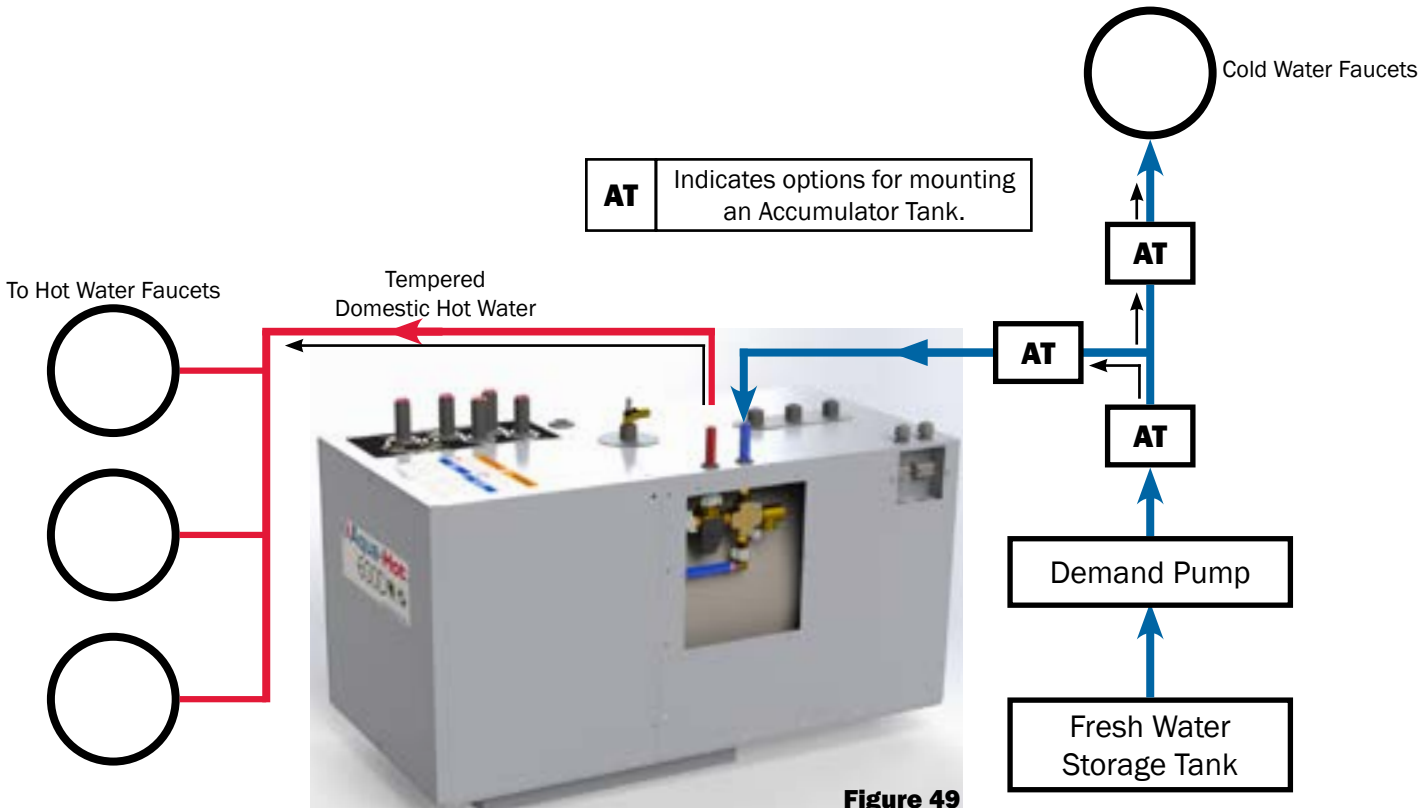

Figure 49
- Plumb the domestic water system according to Figure 49.
Please note it may be necessary to utilize an accumulator tank within the domestic water system. Reference Figure 49. Although the 600D is equipped with a pressure relief valve, the use of an accumulator tank will help prevent excessive “weeping” of the valve. Manufactured pressure relief valves will cause the “seat” in the valve to deteriorate, which can cause the valve to fail permanently. Be sure to reference the RVIA’s (Recreational Vehicle Industry Association) technical publication titled “Recreational Vehicle Plumbing Systems”. To obtain a copy of this publication, contact RIVE at (730) 620-6003 or visit them online at [www.rvia.org](http://www.rvia.org).